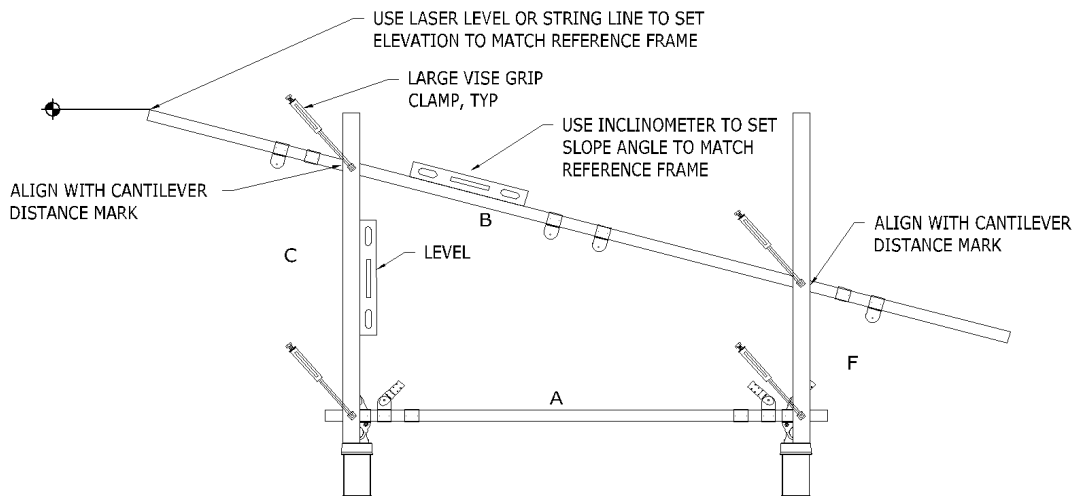

FIGURE 16
**Important:** The frames will be very flexible side-to-side until the Lateral Braces and Hat Sections are installed. If the frames are short, they should stand on their own during assembly. However, if they are very tall, the weight of the frame may cause them to tip sideways, potentially bending the connector fittings. If this is the case, it is recommended to use rope or twine to temporarily tie the frames together. See Figure 16.